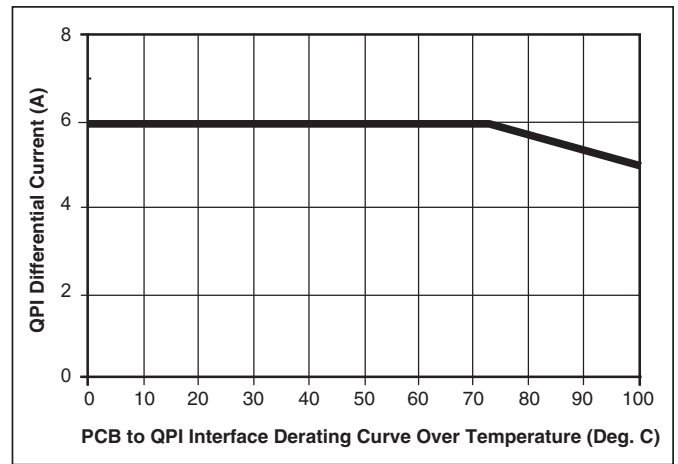

Figure 5 – QPI-8 current derating curve over temperature.
- -40° to +100°C PCB temperature (see Figure 5)
**Note 3:** Refer to Figure 5 for current derating curve.
The QPI-8 6 Amp rating provides filtering for up to 288 Watts of power from a 48 V bus with a 70°C PCB temperature. It is well suited for the 200 Watt per board limit in the PICMG® 3.0. The 25 x 25 x 4.5 mm surface mount LGA package provides ease of manufacturing by eliminating through hole assembly. The current derating curve shown in Figure 5 should be used when the PCB temperature that the QPI-8 is mounted to exceeds 70°C.